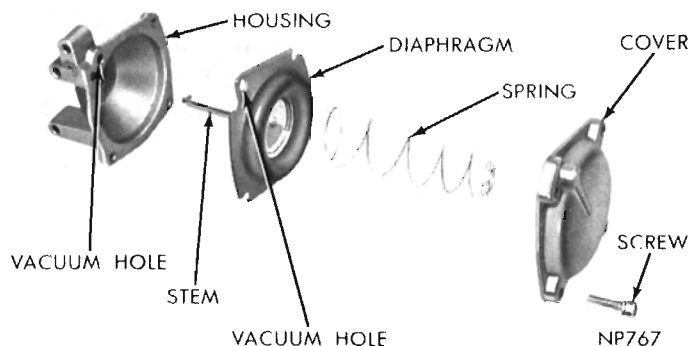

Fig. 15—Secondary Throttle Diaphragm (Exploded View)
- (1) Slide diaphragm into housing (Fig. 15).
- (2) Position diaphragm so that the vacuum hole in housing is aligned with vacuum hole in diaphragm.
- (3) Install diaphragm return spring with coiled end snapped over button in cover.
- (4) Support diaphragm stem in order to keep diaphragm flat as spring and cover are installed.
- (5) Align vacuum port in cover with port in housing then carefully lower cover. Install attaching screws and tighten securely.
- (6) Check diaphragm by pressing in on stem and placing finger over port. Diaphragm should stay in retracted position.
- (7) Install a new gasket in vacuum passage recess in diaphragm housing, then install secondary diaphragm on main body of carburetor and at the same time engage stem with secondary stop lever. Install screws and tighten securely.
- (8) Install pump lever on stub shaft and secure with "E" clip. Slide spring and locknut between fuel pump lever and pump operating lever. Open throttle valve and install adjusting screw. Tighten 2 or 3 threads to hold. The correct setting of the adjusting screw will be covered under adjustments.